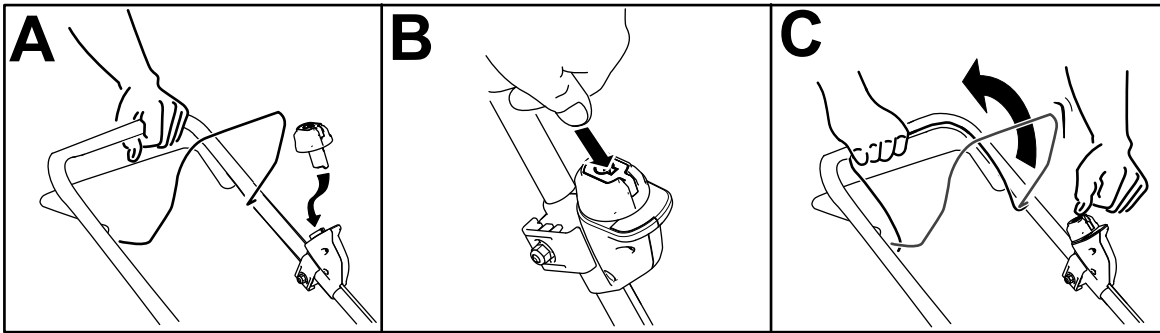

Figure 11
2. Insert the electric-start button into the electric starter (A of Figure 11).
3. Press the electric-start button and keep it pressed (B of Figure 11).
4. Squeeze the blade-control bar and hold it to the handle until the motor starts (C of Figure 11).